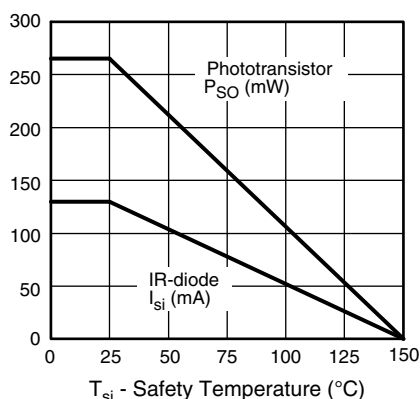

Fig. 4 - Derating Diagram
- According to DIN EN 60747-5-5 (VDE 0884), § 7.4.3.8.2, (see Fig. 4). This optocoupler is suitable for safe electrical isolation only within the safety ratings. Compliance with the safety ratings shall be ensured by means of suitable protective circuits.